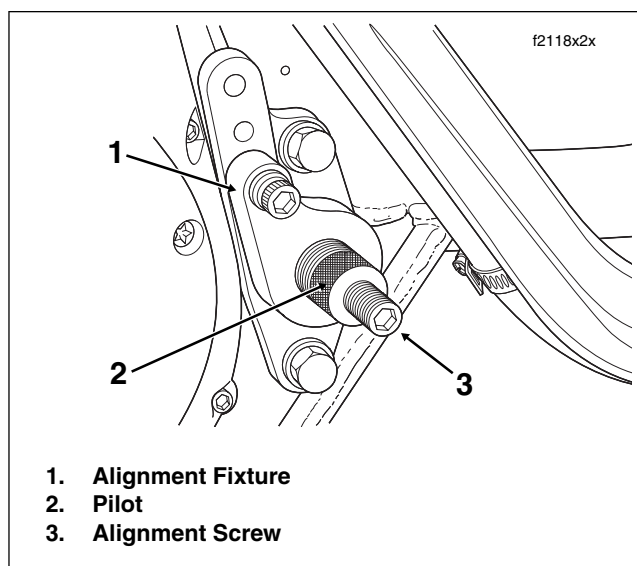

Figure 2-38. Install Vehicle Alignment Tool (Left Side)
- e. Tighten alignment screw to 60-80 **in-lbs** (6.8-9.0 Nm). Repeat step on other side of motorcycle. See Figure 2-38.